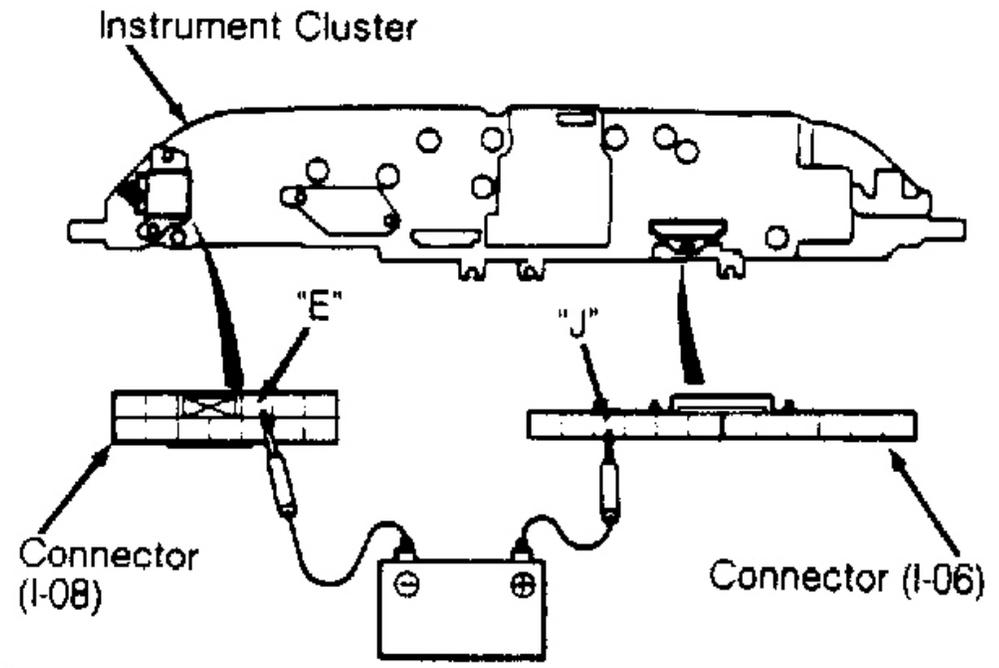

Fig. 10: Testing ANTI-LOCK Warning Light (929)
1. Start engine, and observe ANTI-LOCK light. Light should illuminate for a few seconds. If light does not illuminate as described, remove instrument cluster. Connect 12 volts to terminal "J" of instrument cluster connector I-06. See **Fig. 10** . Using a jumper wire, connect terminal "E" of instrument cluster connector I-08 to negative ground. ANTI-LOCK light should illuminate. If light does not illuminate, check bulb. If bulb is okay, check meter fuse and wiring harness.